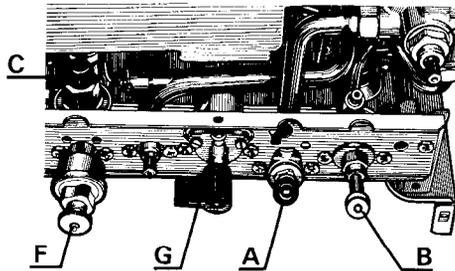

Fig. 34
- 1) Ensure that the isolating valves are open (fig. 34 B and C). **N.B.** Valve (C) must be turned anti-clockwise by the knurled nut until it dislocates from the thread and then pulled out horizontally to its extremity (approximately 30 mm (1 1/4 ins)).
- 2) Turn the lever on the gas service tap (fig. 34) (G) to the left. In the open position the flame sign is to the front.
- 4) Switch to HOT WATER + CENTRAL HEATING (II) on the selector switch (A). The fan will run at low speed.
- 5) Press the ignition button (R) and hold in.
N.B. Before commencing any work turn off gas at the gas inlet tap (fig. 34) item (G) and ensure that the electricity supply is disconnected. Isolate water supply and drain Appliance if required.